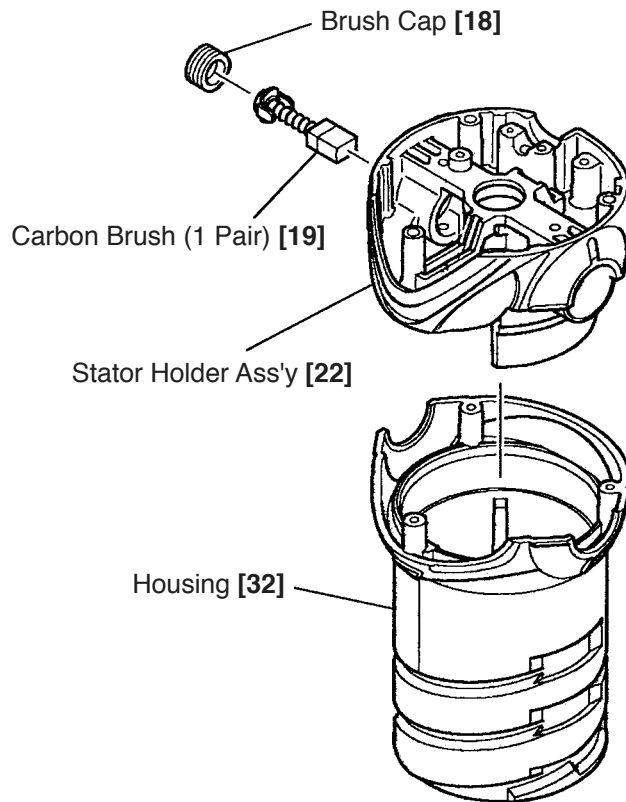

Fig. 6
(3) Separating the Housing [32] and the Stator Holder Ass'y [22] (Fig. 6)